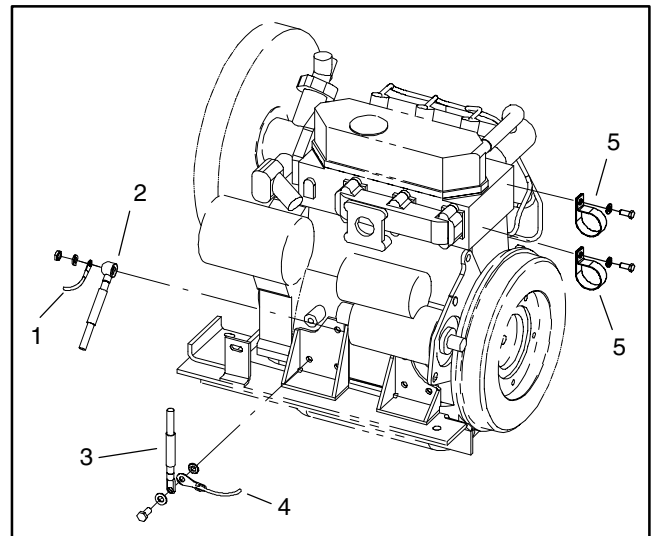

Figure 13
F. Unplug connector with white wire from the engine starter motor located below the exhaust manifold. Remove fusible link connector and positive battery cable from the starter motor (Fig. 13).
G. Disconnect negative battery cable and black engine wire harness ground wire from the rear side of the cylinder block (Fig. 13).
- G. Install connector with white wire to the engine starter motor located below the exhaust manifold. Install fusible link connector and positive battery cable to the starter motor (Fig. 13).